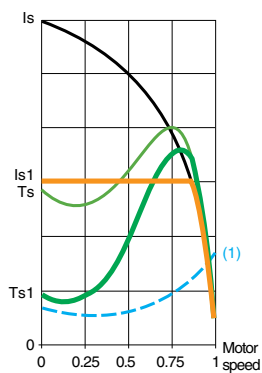

Figure 1
- Figure 1 shows the behavior of the torque in relation to the starting current. Limiting the starting current  $I_{s1}$  to a preset value  $I_{s1}$  will reduce the starting torque  $T_{s1}$  to a value which is almost equal to the ratio of the square of currents  $I_s$  and  $I_{s1}$ .